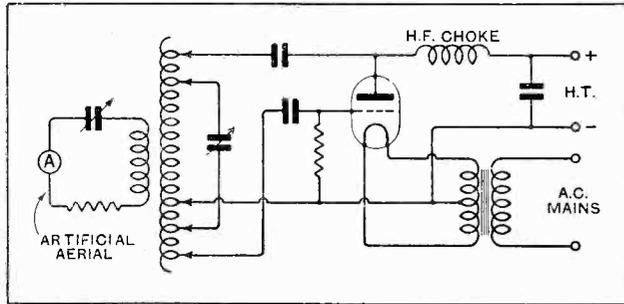

Fig. 1.—Circuit used by the Radio Corporation of America for testing the UX-852 valve on 80 metres.
Fig. 1 indicates the general arrangement of the circuit used for 80-metre transmission tests, the constants being as follows :—
Figs. 1, 2, and 3 will be recognised as the well-known Hartley, Meissner, and Colpitts circuits respectively. By means of the thermo-couple ammeter (A) in the dummy aerial circuit the output power of the valve can be measured.
The most common form of low-frequency amplifier consists of two transformer stages, and in order to fix ideas we shall confine our attention, in the first place, at any rate, to amplifiers of this type; furthermore, we shall assume the first valve to be a detector operated on the "grid condenser and leak" principle. Referring to Figs. 1(a), 1(b), and 1(c), we have theoretical circuit diagrams illustrating three possible ways of cutting out a valve in an amplifier of the above type; all are possible and not infrequently encountered in practice, but there are certain advantages and disadvantages attaching to each which it will be as well to consider. In none of these cases has any switch been shown to turn off the filament of the valve not in use, but this must be imagined to be done for each circuit.
First, in the case of Fig. 1(a), we note that the loud-speaker is inserted in circuit with either one of two valves. This has been an extremely popular method of cutting out a stage, more particularly in America, where the plug and jack system was first developed for wireless purposes; but since the advent of special power valves particularly designed for feeding a loud-speaker it has largely lost its usefulness. It must
In some cases it occurs as a matter of course that the last two valves are of the same type. Thus with certain valves designed to be lit from A.C. mains there is only one type of valve provided for all purposes, and as it is of no particular consequence to economise in H.T. and L.T. power, it is a perfectly satisfactory arrangement. In other cases it may be desired for some reason or other to employ valves of the same type in the last two positions, and in this event the circuit of Fig. 1(a) is a highly convenient one for the purpose. But in general, when a valve of particular type is employed to feed the loud-speaker of the set, and it is desired to keep the feed current of the other valves down to a reasonably low limit, there is a fundamental objection to this circuit, inasmuch as the power delivered to the loud-speaker is curtailed when one stage is cut out.
Next, considering Fig. 1(b), we have an arrangement in which the grid of the "power valve" is connected to the secondary winding of either the second or the first intervalve transformer. The advantage of this is that in all cases the intervalve transformers and the loud-speaker are worked in circuit with their appropriate valves, the
Fig. 1.—Alternative methods of switching a two-stage transformer-coupled amplifier:—(a) Loud-speaker connected in the plate circuit either of the first or second L.F. valve; last valve filament switched off when not in use. (b) Grid of last connected to secondary of either the first or second transformer; first L.F. valve filament switched off when not in use. (c) Primary of second intervalve transformer connected in plate circuit of either first or second L.F. valve; first L.F. valve filament switched off as in (b).